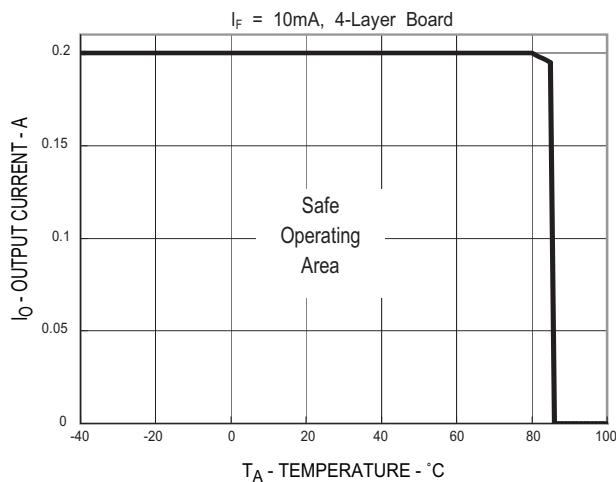

Figure 1. Maximum Output Current Rating vs Ambient Temperature
1. For derating, refer to Figure 1, 2, 3 and 4.
Figure 1, 2, 3 and 4 specify the maximum average output current allowable for a given ambient temperature. The maximum allowable output current and power dissipation are related by the expression $R_{ss} = P_o(\max)/(I_o(\max))^2$ from which R_{ss} can be calculated. Staying within the safe area assures that the steady state MOSFET junction temperature remains less than 125 °C.